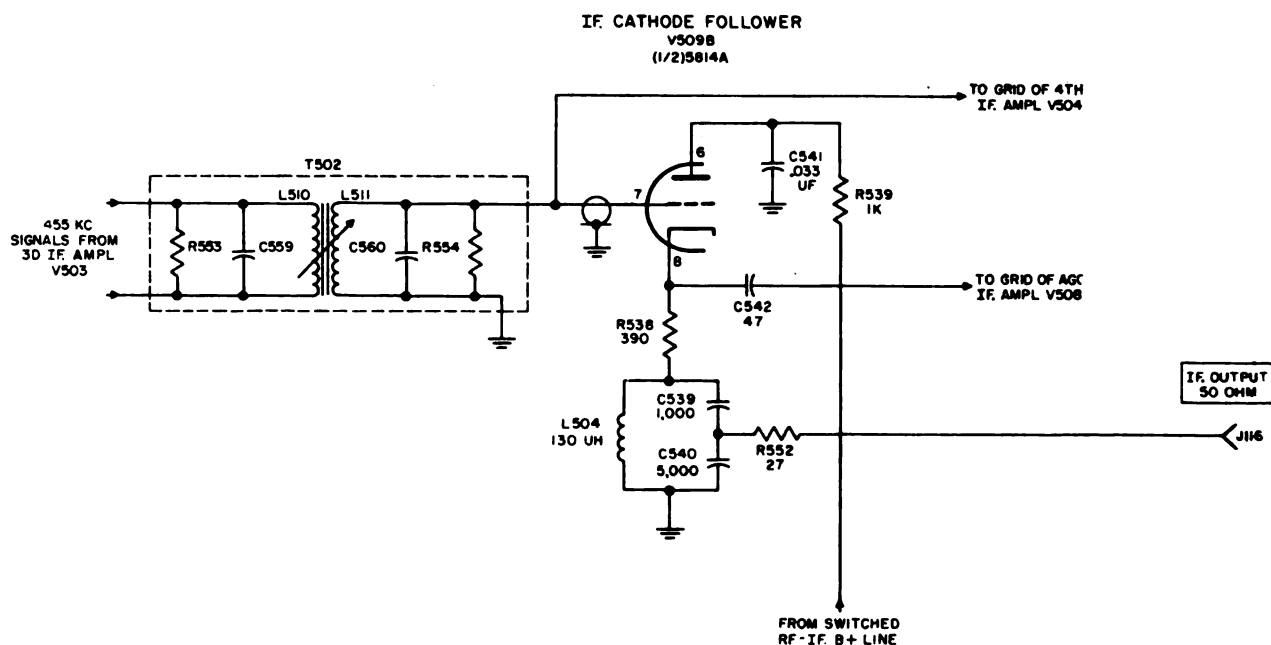

Figure 20. If. cathode follower V509B, simplified schematic diagram.
back from detector V506B through V504. The secondary winding of T502 also feeds 455-kc signals to if. cathode follower V509B, which supplies 50-ohm, 455-kc signals to external circuits (para 20, fig. 20). The output signal developed across the L513 of T503 is connected to detector V506B. Capacitor C530 bypasses if. signals to ground. In the if. subchassis with MOD numbers 1 and higher on Order No. 363-Phila-54, serial numbers 600 and higher on Order No. 08719-Phila-55, and all if. subchassis on Order No. 14-Phila-56, transformers T501, T502, and T503 are stagger-tuned to increase bandwidth. When one of these transformers is replaced in any subchassis, stagger-tuning procedures should be followed (para 72).
20. If. Cathode Follower V509B (fig. 20)